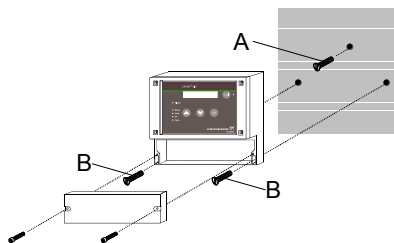

Fig. 4 Mounting drawing
2. Screw the screw (A) into the top centre dowel until it projects by approx. 1 cm. See fig. 4.
4. Hang the instrument on the screw (A).
5. Tighten the instrument with the two screws (B).